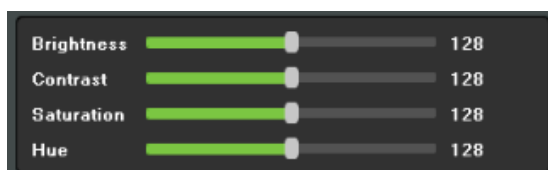

Figure 7.4 Image Setting Interface
6. Image Parameters: Adjust the Brightness, Contrast, Saturation and Hue of the channel, as shown in Figure 7.4.